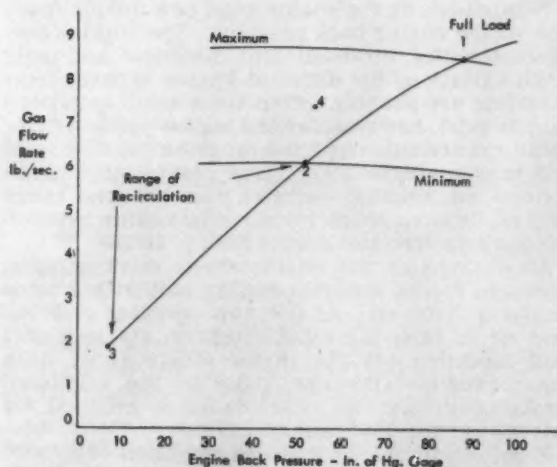
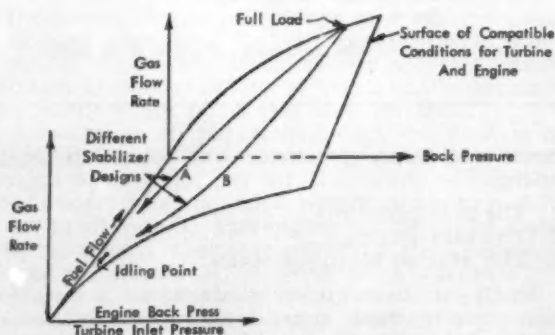

Fig. 10—Flow characteristics for a 1000 hp free-piston engine-gas turbine combination.
Fig. 17—Nature of region where engine and turbine can operate in combination.
An example of this characteristic relationship is shown in Fig. 10 for an operating unit with a rated output of 1000 hp. As the unit operates over the load range from the rated condition (1) to a part load condition (2) the engine stroke varies from the maximum allowable value to the minimum stroke condition. No recirculation is required for this part of the load range.
4. At each of the several engine back pressures the flow rate of the fuel was varied in successive simulations until the gas flow rate predicted by the simulation equalled the test value as shown in Fig. 10.
Fig. 17 shows that the compatible areas of operation for the combination of the engine and turbine become a single surface. As the fuel flow to the engine is reduced from the full load condition, the unit might follow some curve such as A down to the idling condition. In contrast, the unit might follow some curve such as B.
The recirculation or throttling controls are needed to extend the operating range of the engine-turbine combination. At some point along the path of operation from full load (see path A, Fig. 17, and point 2, Fig. 10) the minimum odp condition will be reached (the engine will stall unless the pistons move out to uncover the ports). From this point downward recirculation or throttling must be used in increasing amounts to reduce the gas flow rate from the engine while the stroke is maintained within operable limits. Since both control devices utilize a throttling process which is irreversible, the control while necessary is undesirable.